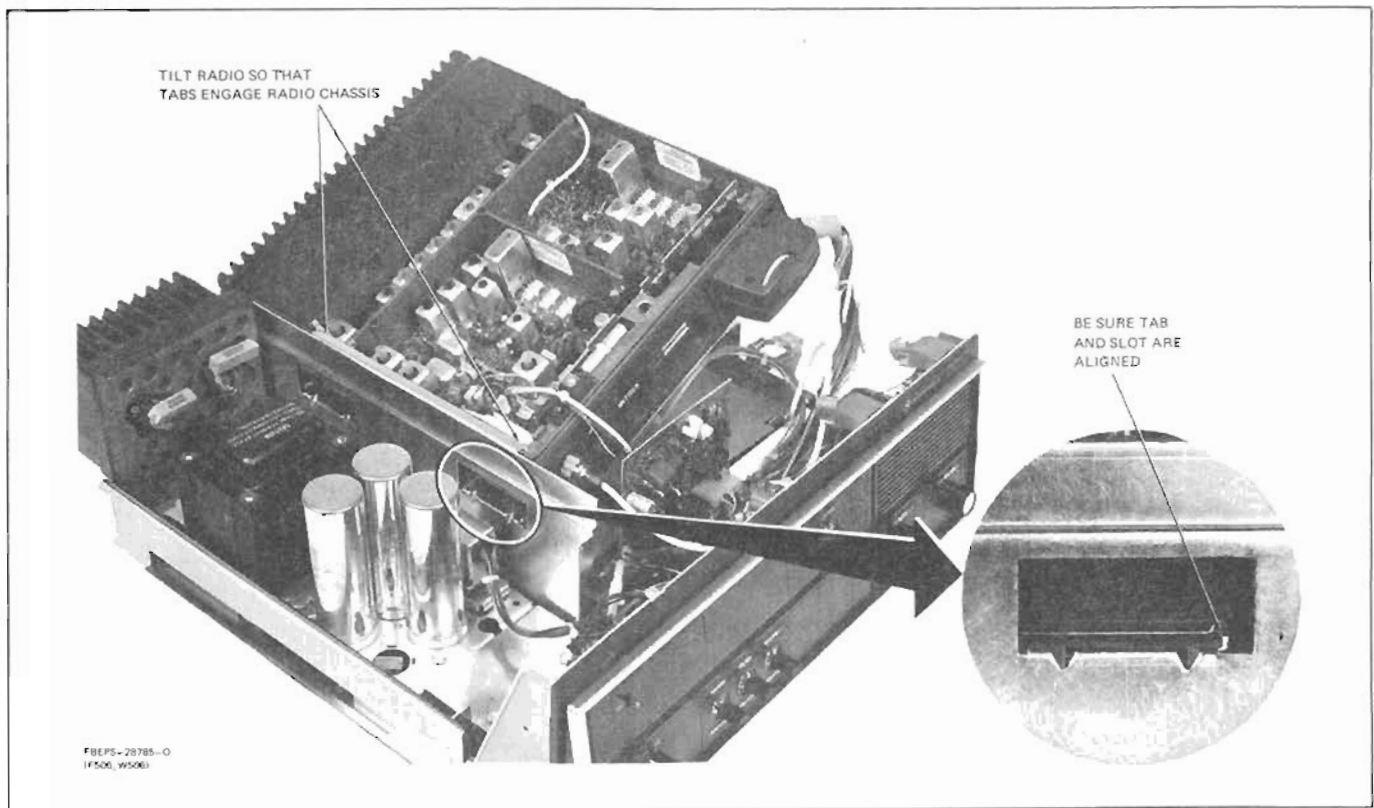

Figure 2. Transmitter-Receiver Unit Installation Detail
Step 5. When re-installing the transmitter-receiver unit, insert it under the tip of the retaining wall tab from the right side of the station chassis, as shown in Figure 2. Then, lower the side of the unit until the chassis mounting tab engages the slot on the bottom of the unit. See inset in Figure 2 for correct orientation.